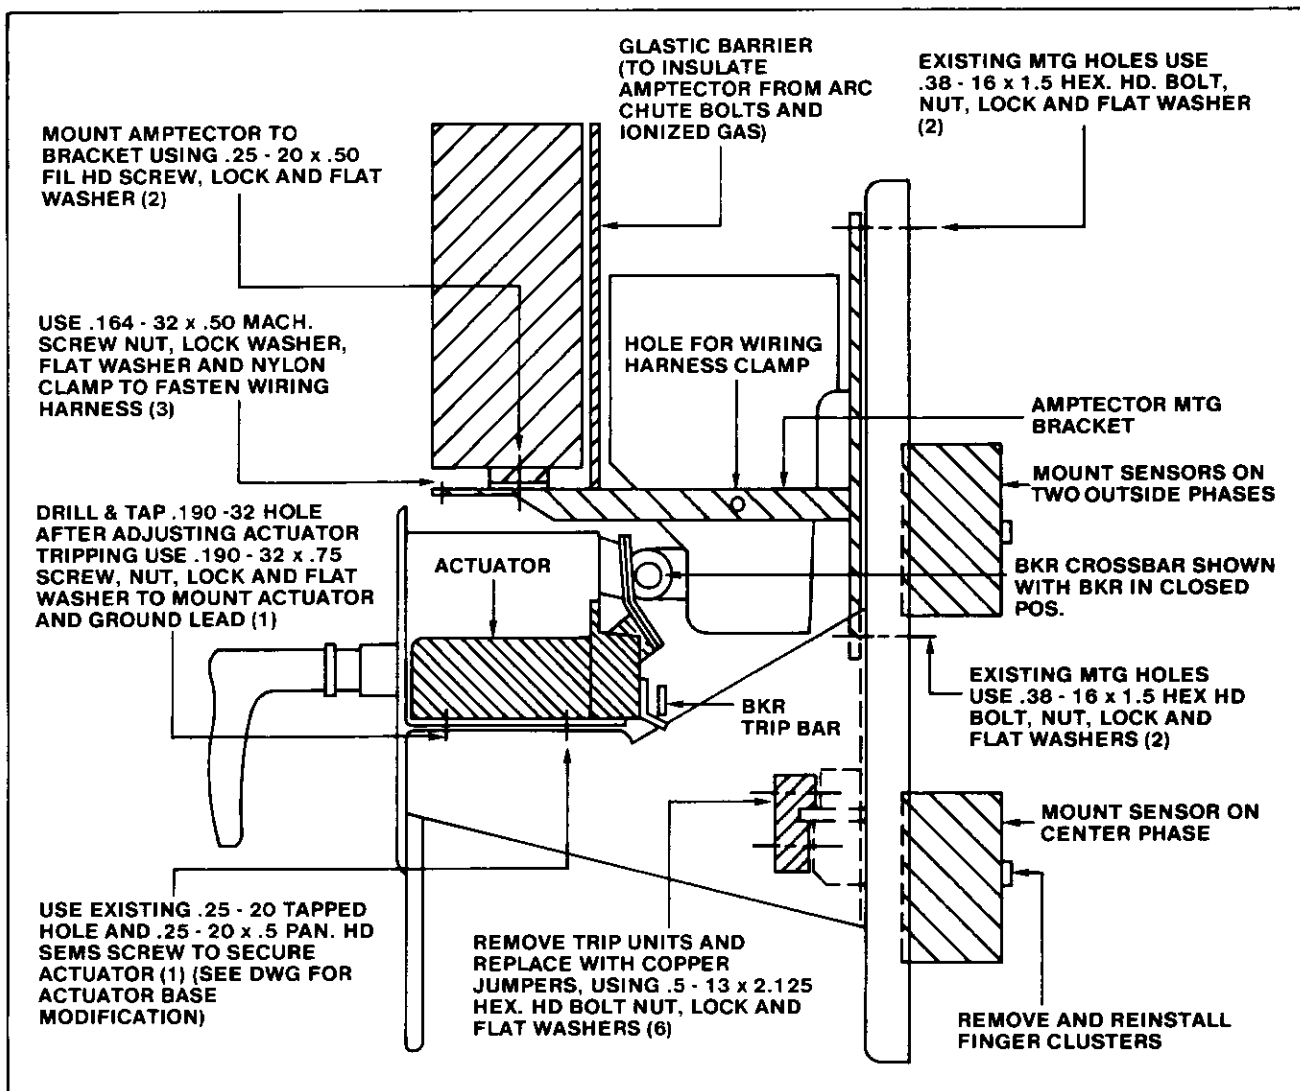

Fig. 16 Right Side View of DB-15
- B. Familiarize yourself with right hand side view of breaker, see Fig. 16.